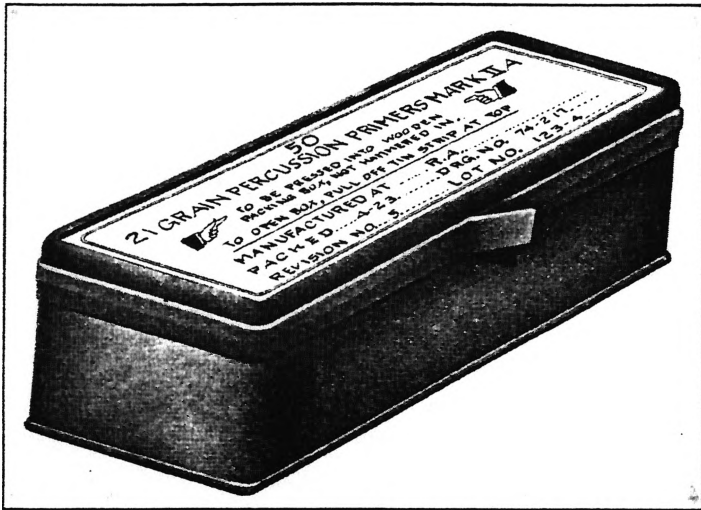

FIG. 26.—Packing can for 21-grain percussion primers, Mk. II-A
(7) The propelling charge is held in the metal cartridge storage case to prevent movement of the charge in the same manner as that described for the fiber cartridge storage case in *b*(4) above.
26. **Packing boxes for primers.**—21-grain percussion primers, Mk. II-A, are packed in waterproof metal cans containing 50 primers. The primers are held in position by means of cardboard separators. These cans are about 5.7 inches long, 3 inches wide, and 2 inches high. The covers of these cans are secured in place by means of soldering strips. The marking on the packing cans is shown in Figure 26. The packing cans are packed in wooden packing boxes for quantity shipment. The standard wooden box contains 48 packing cans and 2,400 primers. This box is approximately 26½ inches long, 10⅞ inches wide, and 9⅞ inches deep. It occupies about 1.57 cubic feet of space and weighs about 85 pounds. Primers must always be stored in a dry place, as excessive moisture may cause them to fail to function.